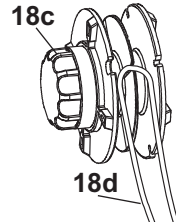

Fig. 31
5. Double the trimmer line (18d) back and lead the loop through the slot of the trimming spool (18c) and hook it (Fig. 31).